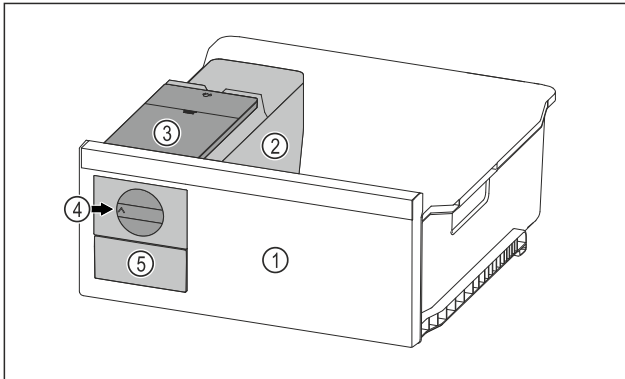

Fig. 38 Example illustration
- Turn the rotary knob Fig. 38 (4) clockwise as far as it will go.
- Ice cubes fall from the ice cube tray into the ice cube drawer Fig. 38 (5).